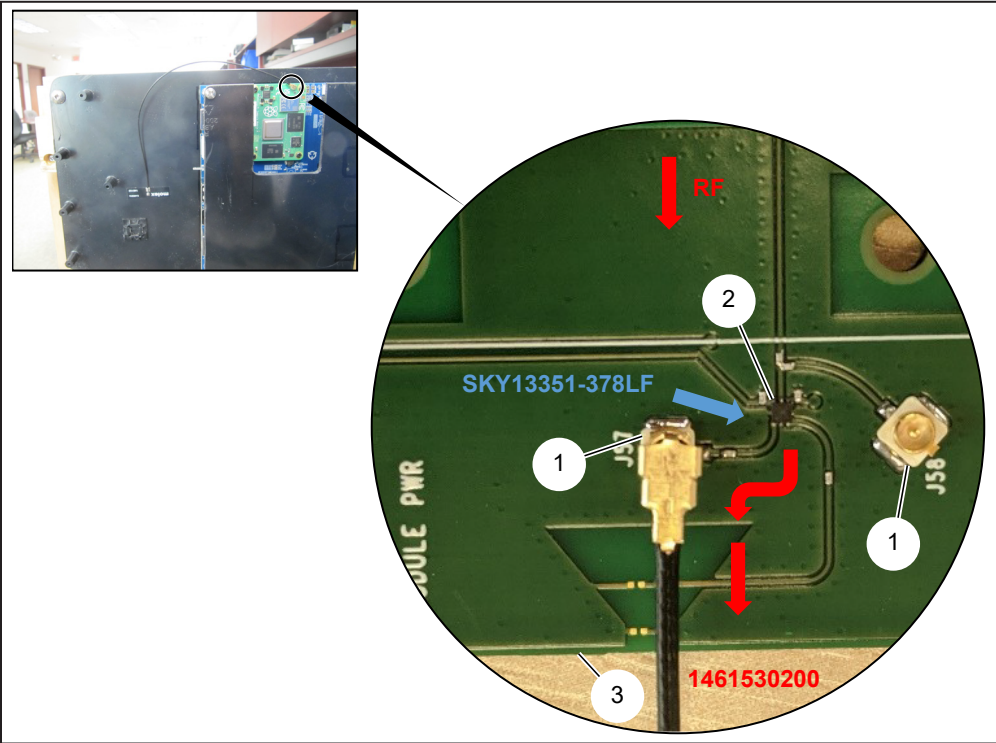

Figure 2-1. Connecting the Antenna to the RM0 Module
- The Antenna (Molex Inc., Part Number: 1461530200) is connected to the UFL connector (Taoglas RECE.20279.001E.01), which is connected to the RF switch (Skyworks Part Number: SKY13351-378LF) and directly connected to the RM0 module. *Refer to Figure 2-1.*